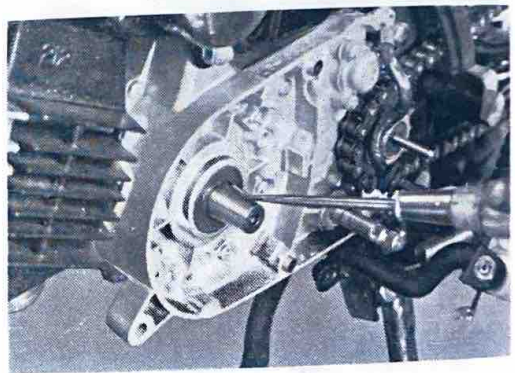

Fig. 3-1-9
9. Pry out the woodruff key (segment key) with a slot-head screw driver. (Fig. 3-1-9)